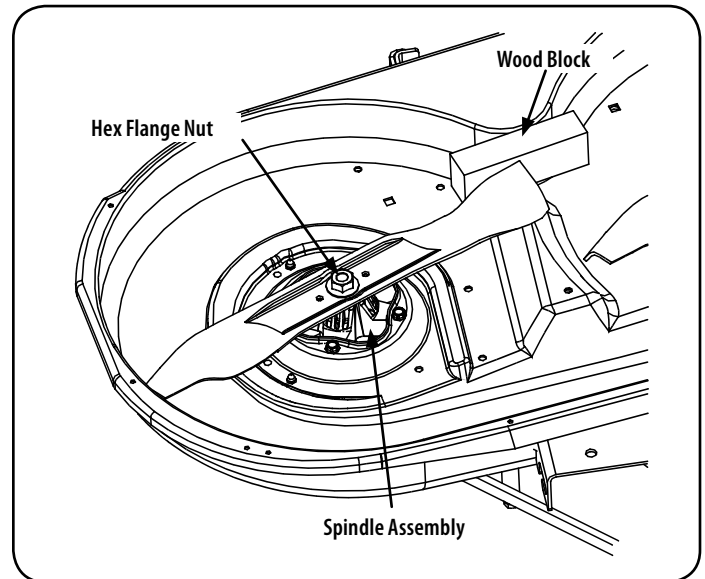

Figure 31
2. Use a  $\frac{15}{16}$ " wrench to hold the hex nut on top of the spindle assembly when loosening the hex nut securing the blade. A block of wood may be placed between the deck housing and the cutting edge of the blade to help in breaking loose the hex nut securing the blade. See Figure 31.